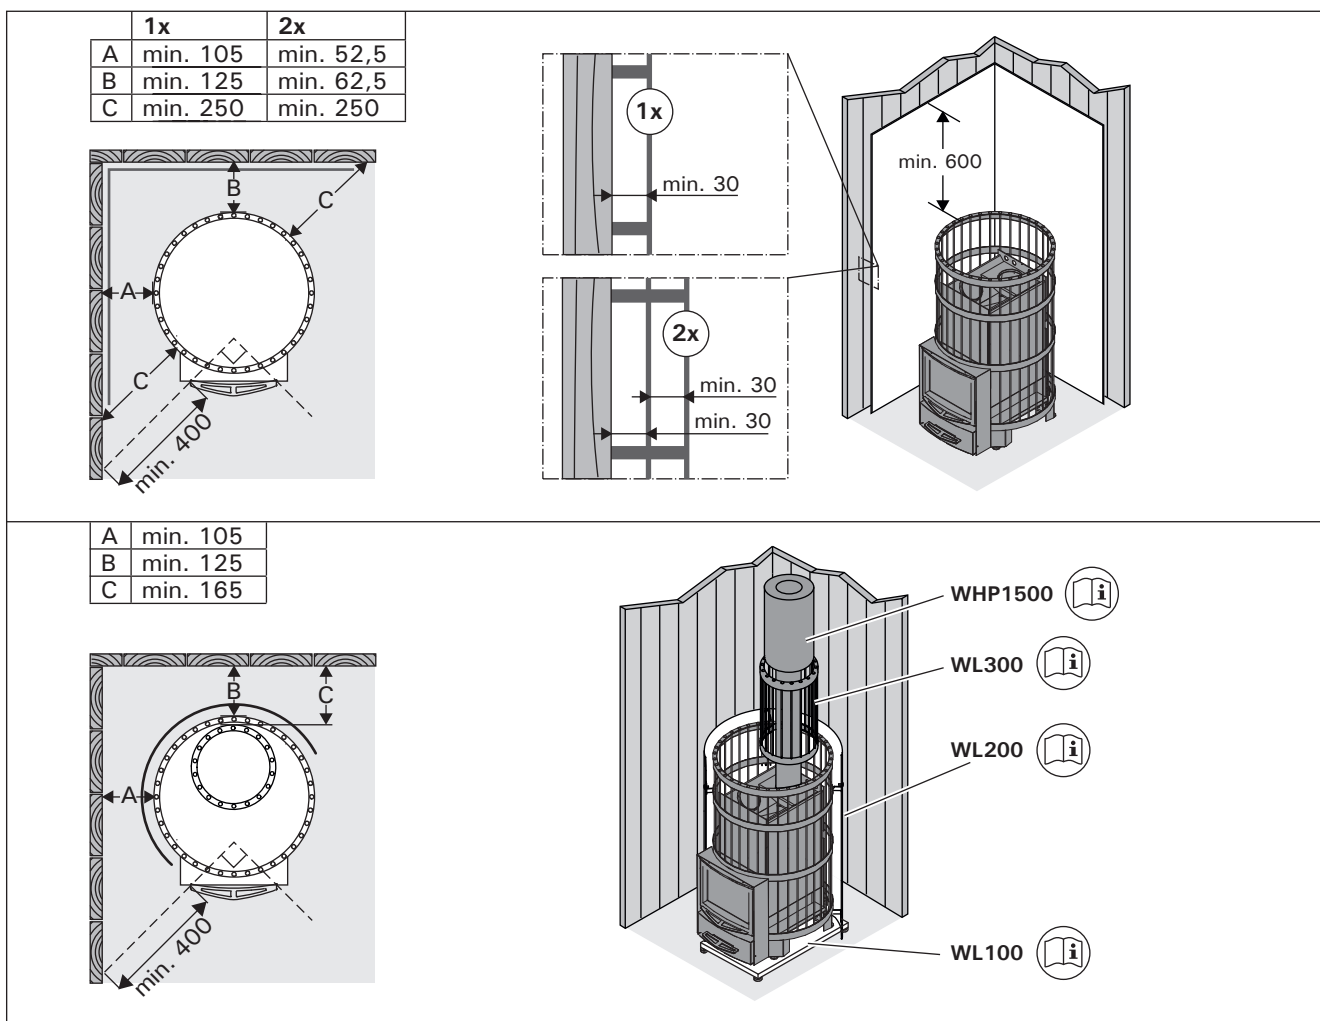

Figure 9. Protective covers (all dimensions in millimeters)
See figure 9. The specified safety distances from inflammable materials can be reduced to half with a single protective cover and to one-fourth with a double protective cover.
- **Legend protective sheath WL200.** A protective sheath to be attached to the stove. Equivalent to a single protective cover. Figure 9.
- **Legend smoke pipe cover WL300.** Installed around the smoke pipe and filled with stones. Suits both straight and angled smoke pipes. Figure 9.